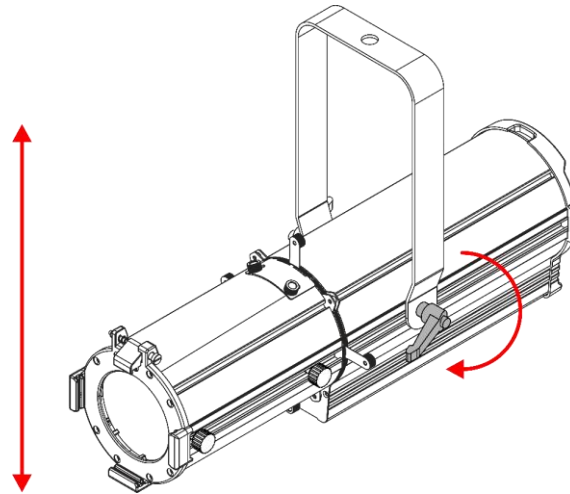

Fig. 10
- 01) Turn the **adjustment handle (03)** counterclockwise to loosen it.
- 02) Tilt the device to the desired angle (see Fig. 10).
- 03) Turn the **adjustment handle (03)** clockwise to tighten it.